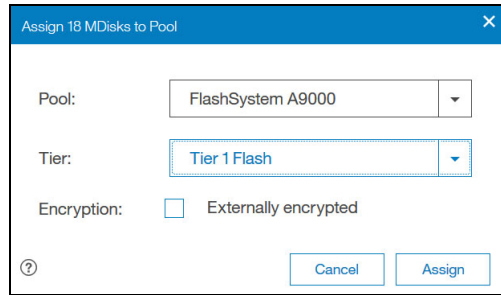

Figure 3-14 Assigning MDisks to include in the SAN Volume Controller pool
5. Click **Assign** to assign the 18 MDisks to a pool, selecting the correct tier as well, as shown in Figure 3-14.